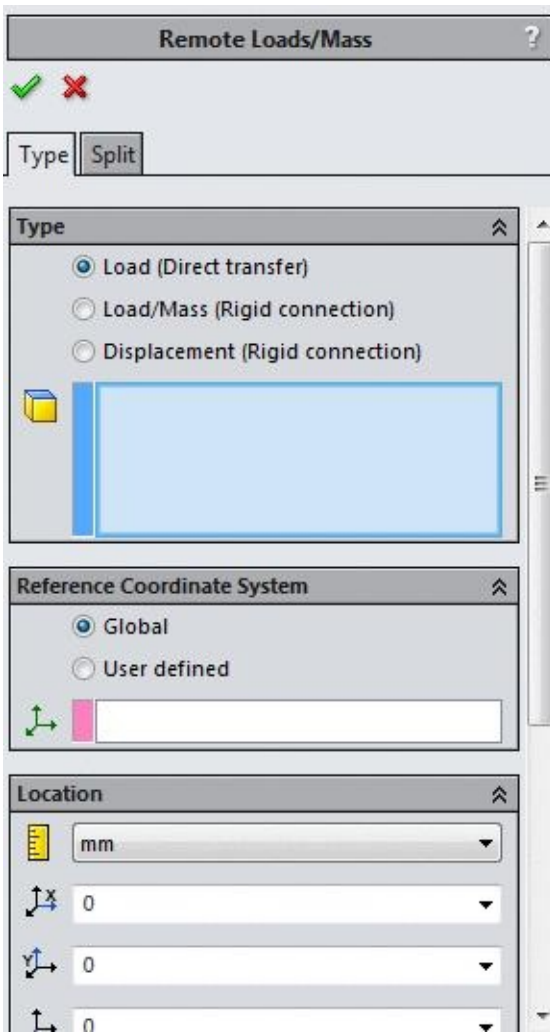

Figure-52. Remote Loads or Mass PropertyManager
- Click on the **Remote Load/Mass** option from the **External Loads Advisor** drop-down. The **Remote Loads/Mass PropertyManager** will be displayed as shown in Figure-52.